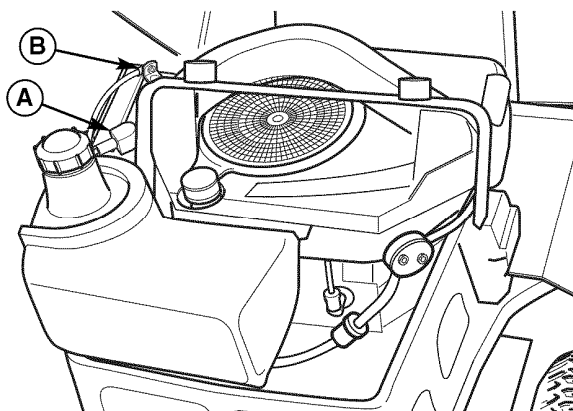

Figure 27. Engine Compartment
1. Disconnect the cables from the battery, negative cable first (B, Figure 27).
6. Reattach the battery cables: first attach the positive cable (see A, Figure 27), then attach the negative cable (B).